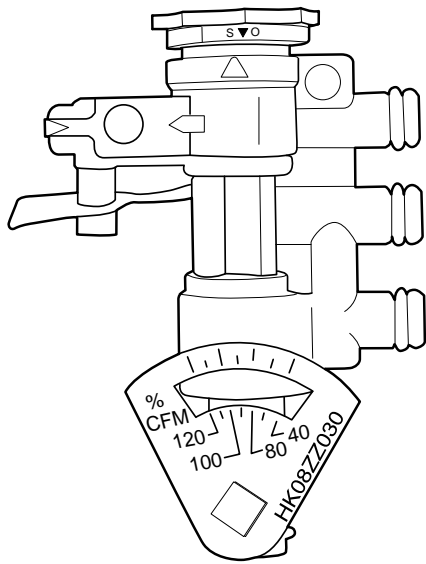
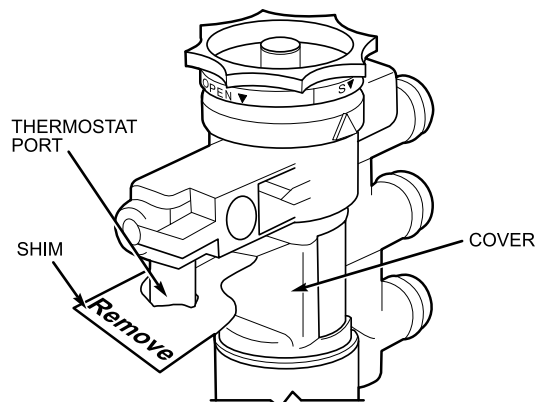

Fig. 8 — Setting Maximum Volume — 37HS Controller
Fig. 9 — Shim Removal
5. Remove cap from thermostat port of volume controller. See Fig. 8. Pull shim down until released from thermostat port and then pull shim out from volume controller body. See Fig. 9. Discard shim. Reinstall cap on the thermostat port.
- a. Remove cap from thermostat port of volume controller. See Fig. 8. Pull shim down until released from thermostat port and then pull shim out from volume controller body. See Fig. 9. Discard shim.